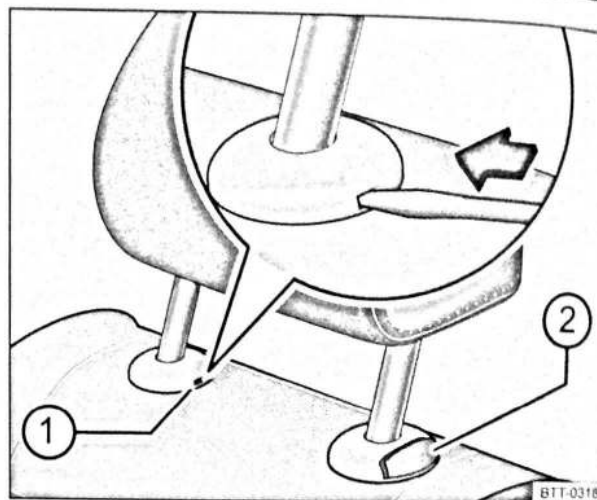

Fig. 49 Removing the rear head restraint
- Insert the unfolded vehicle key bit or the flat edge of the screwdriver from the vehicle toolkit into the slot in the cap $\Rightarrow$ Fig. 49 (1).